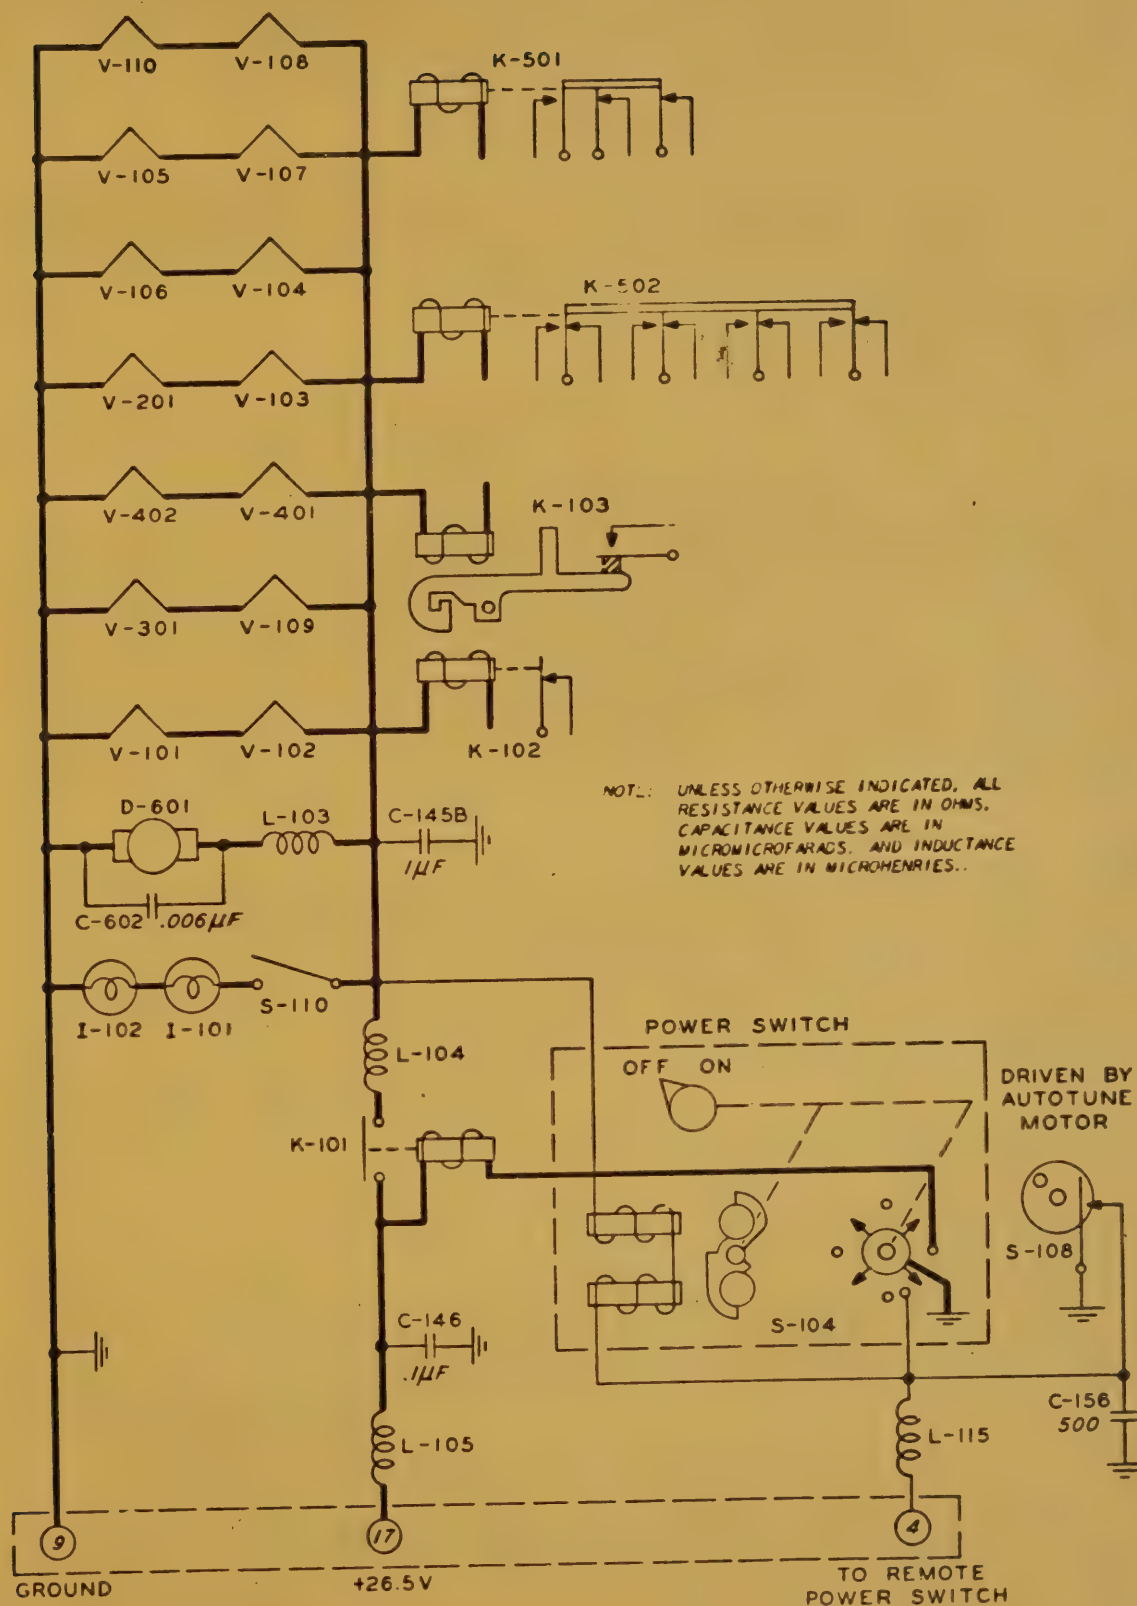

Figure 2-5 Primary Power Circuits
c. PRIMARY POWER CIRCUIT. (See Figure 2-5.) - This equipment has been designed to operate from a 26.5 volt d-c power source. All of the vacuum tubes that are used in the equipment are of the 12.6 volt heater type. The heaters of the tubes are connected in series parallel across the power source. The resistance of the filter chokes and leads to the tube heaters reduce the voltage to the correct value for application to the series-parallel connected heaters.
Refer to Figure 2-5. With the connections from the power source made to terminals 9, and 17 of connector plug P-101 (terminals 9 negative and terminals 17 positive), complete control of application of voltage to the equipment is held by the ON-OFF switch. The operating of the ON-OFF switch, either the panel switch or a remote switch, to the ON position energizes the primary power control relay, K-101. The operation of the primary power control relay applies